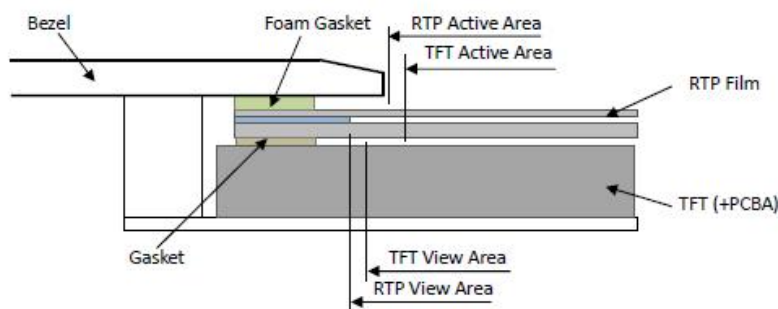

Figure 5
- In general design, RTP V.A. should be bigger than the TFT V.A. and RTP A.A. should be bigger than the TFT A.A. (Figure 5)
- 通常设计时: RTP 的可视区 V. A. 应不小于 TFT 的可视区 V. A. 及 RTP 的动作区 A. A. 应不小于 TFT 的动作区 A. A. (附图 5)